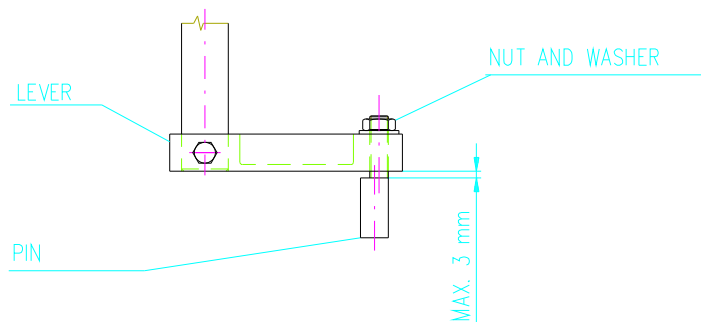

Fig. 4
3. Unscrew the pin by 1 up to 2 turns. Be careful that the marks on the pin and on the lever are located against each other. By this the play between the pin offset and the lever is increased – see Fig. 4. This play mustn't exceed the value of 3 mm.